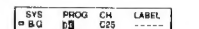

Fig. 5
- Select the second element of the double-digit number with Δ or ∇ or the number buttons (e.g. For »04«, select »4« here) (See Fig. 5) and press OK.